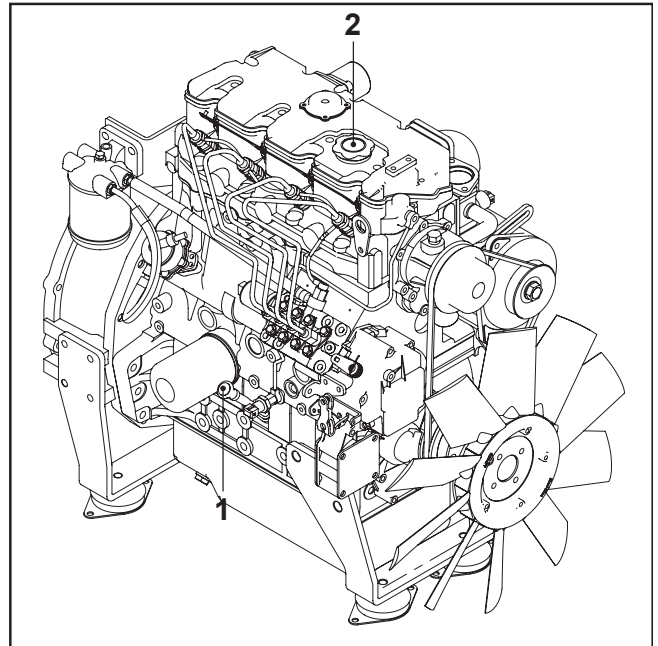

FIG.87
- Put the oil drain plug back in, remove the refilling cap (FIG. 87-REF. 2), refill with oil and put back the cap. Check the level on the dipstick. It should be near the maximum mark (FIG. 87-REF. 1).
- Remove the refilling cap (FIG. 87-REF. 2), refill with oil and put back the cap.
- Make sure the level shown on the dipstick (FIG. 87-REF. 1) is near the maximum mark.